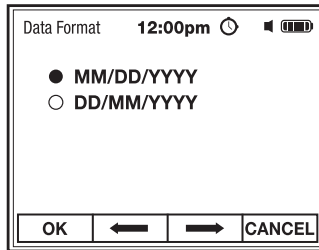

Fig. 26
2. Use the **F2** \leftrightarrow and **F3** \Rightarrow soft keys to select Month/Day/Year or Day/Month/Year (Fig. 26).
3. Press the **F1** **OK** soft key to save setting and return to Date/Time Menu (Fig. 26).